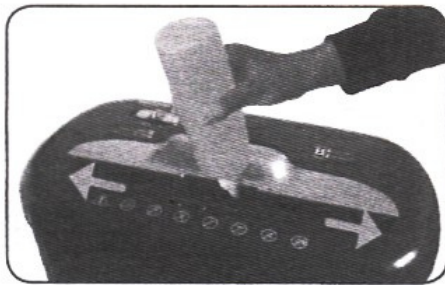

FIGURE 3
■ Oil the shredder blades every month with basic vegetable, cooking oil or shredder oil. Follow oiling procedure below (FIGURE 3). It helps to keep the shredder blades operating well over many years of use.